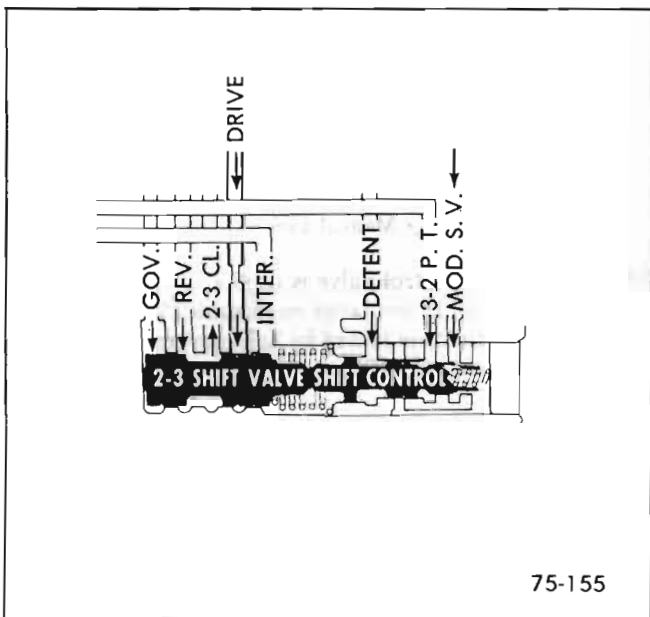

Figure 75-23 - 2-3 Shift Valve
**J. 2-3 Shift Valve (See Figure 75-23)**